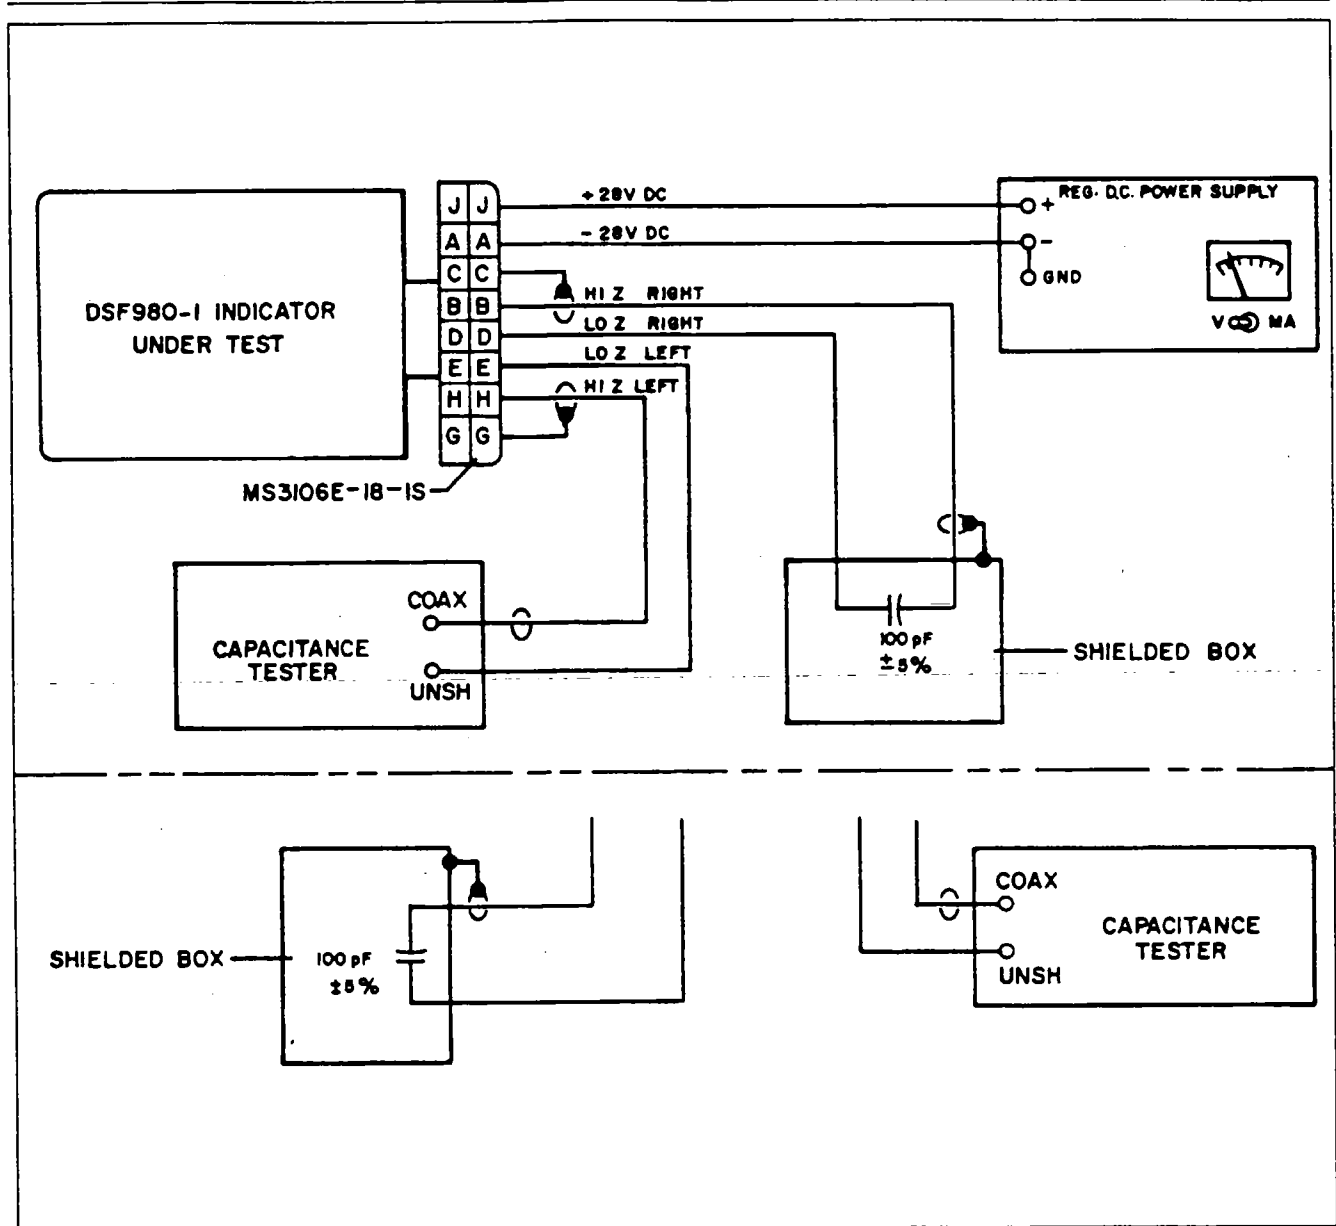

Figure 28-16. Alternate Indicator Bench Test Hookup
When testing one side of a fuel quantity indicator, the meter for the opposite side should be activated to approximately mid-scale, with a fixed capacitor of about 100 pF. (See Figure 28-16.) Use the capacitance test equipment (see Chart 2803) to determine that both sides of the Fuel Quantity Indicator read within the limits shown in Chart 2804.
- B. Connect indicator to test set and harness as shown on Figure 28-16, View A.
- A. Connect the test equipment as shown in View A of Figure 28-16.
- D. Connect the test equipment as shown in View B of Figure 28-16 and repeat test for the right tank simulation.